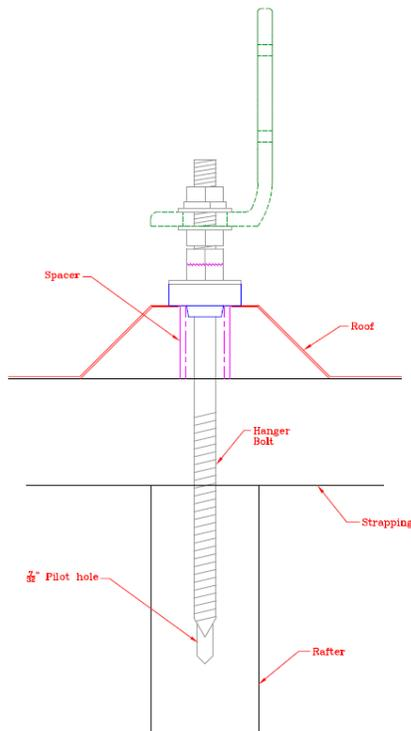

Figure 29 Hanger Bolt Ridge Installation
- i. When installing into the raised portion (Figure 29 Hanger Bolt Ridge Installation) of the roof drill a $\text{Ø } 3/4''$ hole into the steel portion of the roof only.